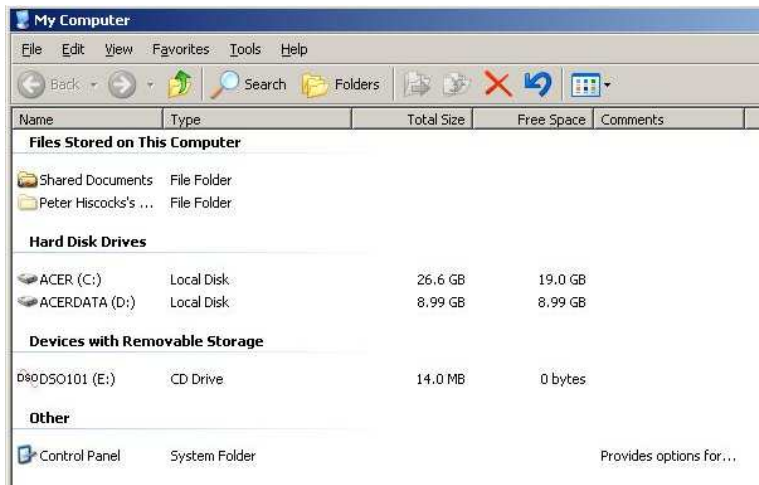

Figure 19: My Computer
1. Double click on My Computer to obtain a screen like figure 19.